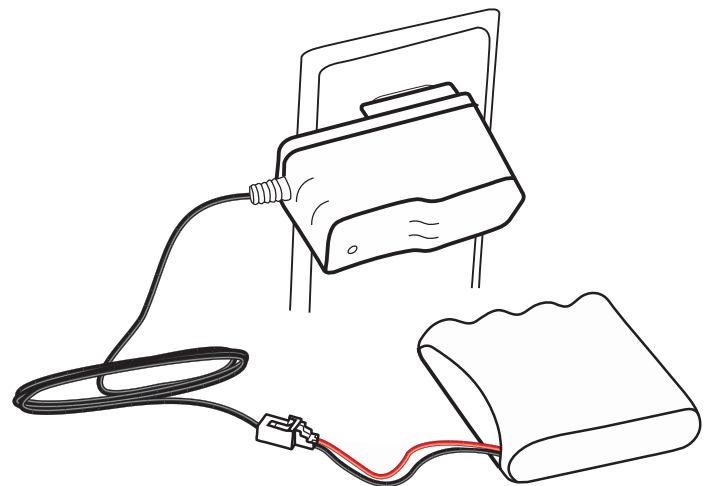

Figure 4 - Charging the 10k mAh Battery Pack
- If you are using an Accessory Pack with the 10K mAh Battery Pack, the process is similar. Just connect the battery to the AC adapter and then plug the adapter into the electrical receptacle (see "Figure 4 - Charging the 10k mAh Battery Pack")